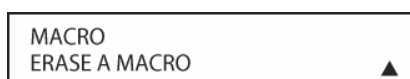

Figure 148
3. At the next menu screen (**Figure 148**), press the **▼/▲ Navigation Button [triangle 13]** until the bottom line in the remote's LCD display reads ERASE A MACRO. Press the **Set Button [triangle 15]** to begin the process of erasing a macro.